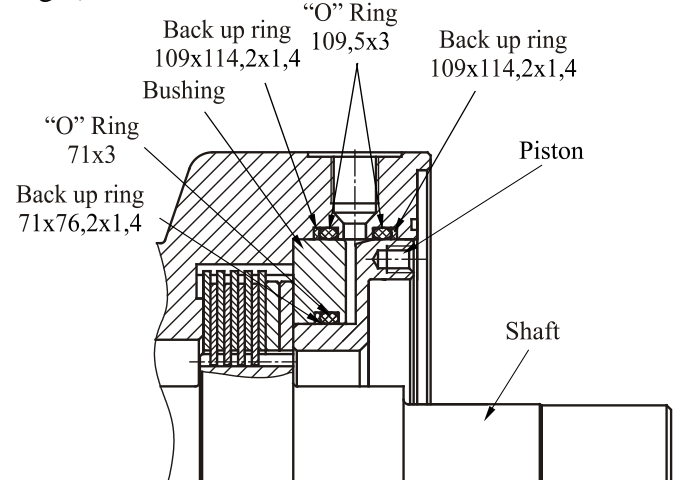

Fig.7
4. Mount lubricated O-ring 109x114,2x1,4 (2 pcs.) with back up ring 109,5x3 (2 pcs.) into housing grooves. (see fig.7)
9. Mount lubricated O-ring 71x3 with back up ring 71x76,2x1,4 into bushing grooves. (see Fig.7)